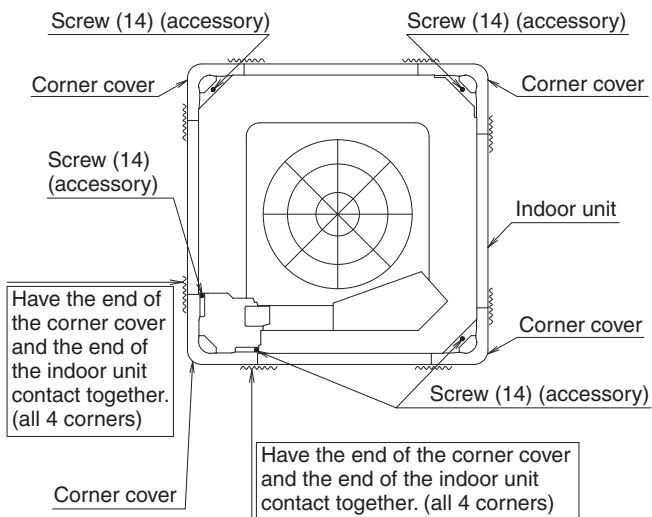

Fig. 46
- Attach the corner cover to the indoor unit. Then, fix the corner cover with the attached screws (14) while pressing the corner cover so that the end of the corner cover and the end of the indoor unit contact together. (Refer to Fig. 46)